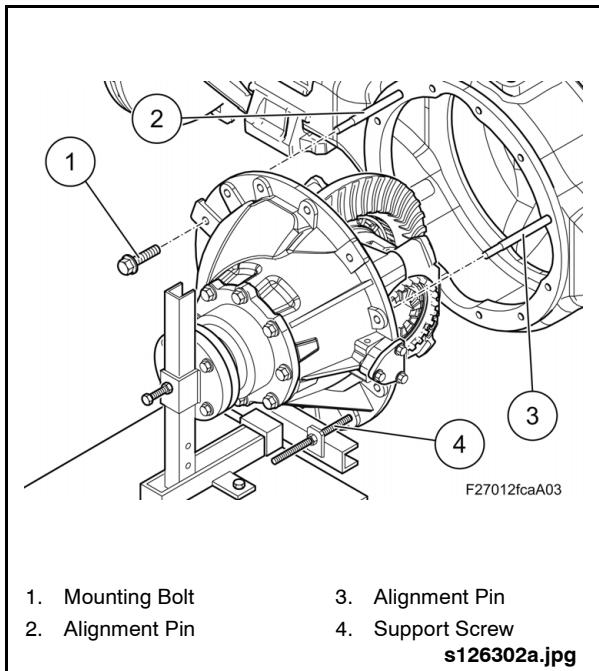

Fig. 2-43: Differential Carrier Removal
2. Remove two opposing mounting bolts and replace with Alignment Pins (Item 78 from Special Tools List). See "Fig. 2-43: Differential Carrier Removal" on page 39.